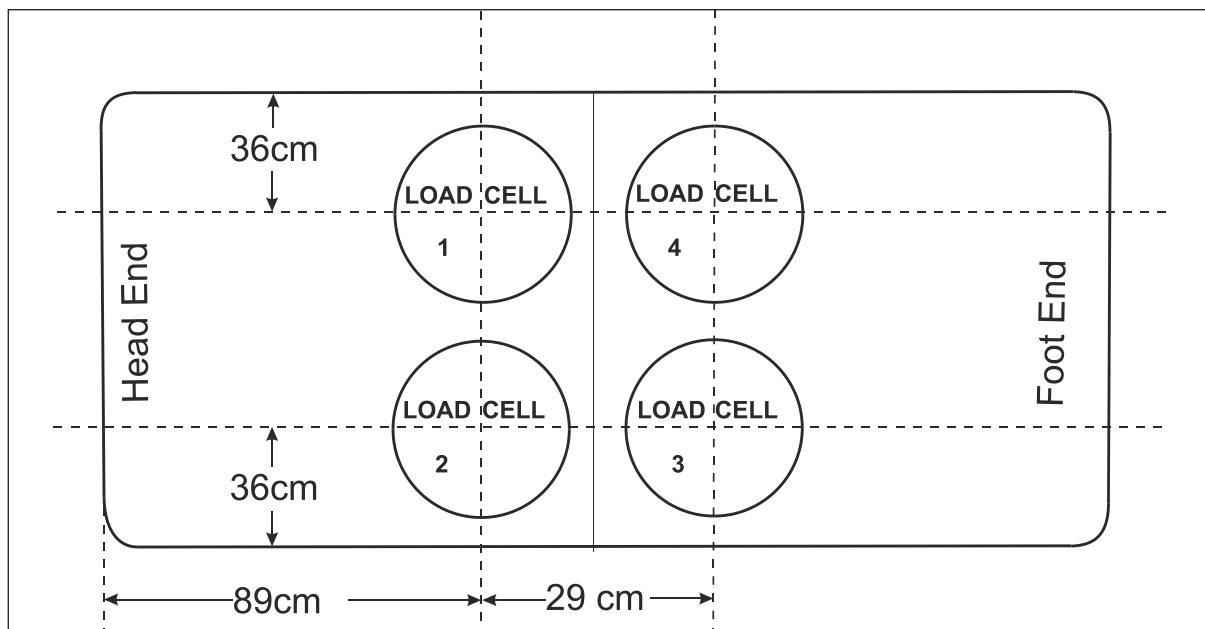

Fig. 7-4 Load Cells and Weight Positions
- q) Place the five 100 kg weights on the bed platform above the centre of load cell 1, as shown in Fig. 7-4.
**Note:** *Fig. 7-4 also shows the weight position measurements from inside the Head End Panel and from the side of the mattress support.*
- r) Press the Load Enter Button (2) and again wait until *LoAd 2* is shown on the Upper Display (5).